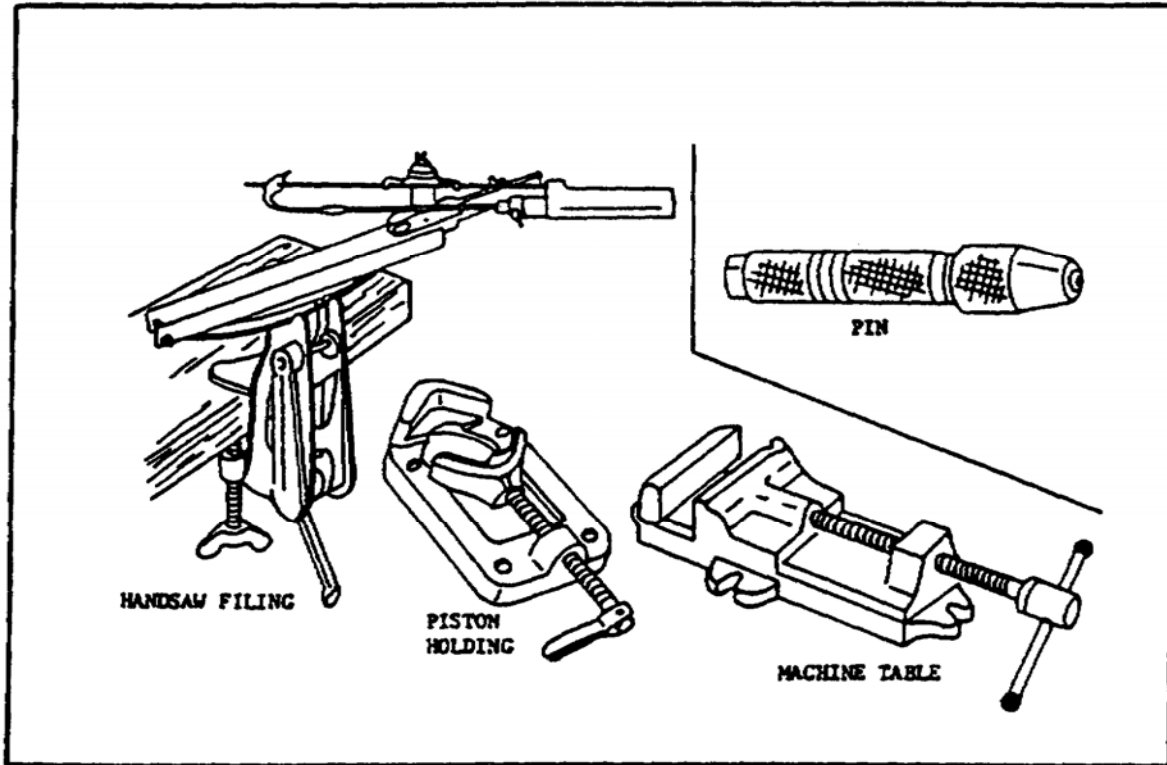

FIGURE 42. SPECIAL PURPOSE VISES.
(6) *Machine Table Vise*. The machine table vise (figure 42) is constructed so that it may be secured on a machine table and hold work for subsequent machining operations. These vises either have a 3 1/2 inch jaw width and a 3 inch jaw opening, or a 6 inch jaw width with a 6 inch jaw opening.
(7) *Pin Vise*. A pin vise (figure 42) is held in the hand. Its overall length is usually about 4 inches. It has a chuck-type jaw capable of holding small stock from 0 to 0.187 inch in diameter.
(8) *Piston Holding Vise*. The piston holding vise (figure 42) is designed to hold engine pistons up to and including 5 1/2 inches in diameter. This vise can be bolted onto a bench or machine table.
(9) *Handsaw Filing Vise*. The handsaw filing vise (figure 42) is another specially designed vise. It has a 9 1/2 to 11 inch jaw width which holds handsaws in the correct position for sharpening their teeth, and an attachment for holding the file at a definite constant angle.